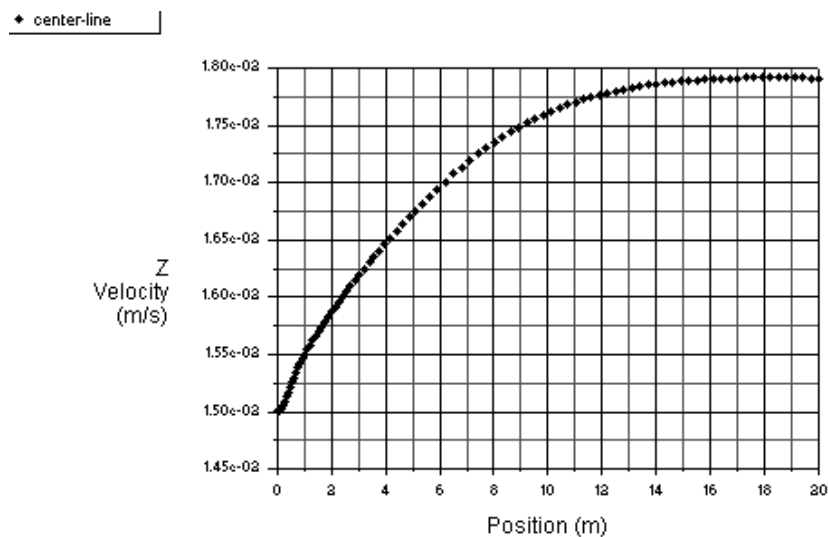

Figure 4.5: Plot of Z-velocity on center-line
7. Create XY plots (Figure 4.5).
Figure 4.5 can be used to calculate the entry length of the pipe. The distance along the pipe length where velocity reaches 99.9% of its final value is called as the entry length. From the above plot the value of entry length comes to be 15.19 m, which matches closely with the values reported in the literature [3].